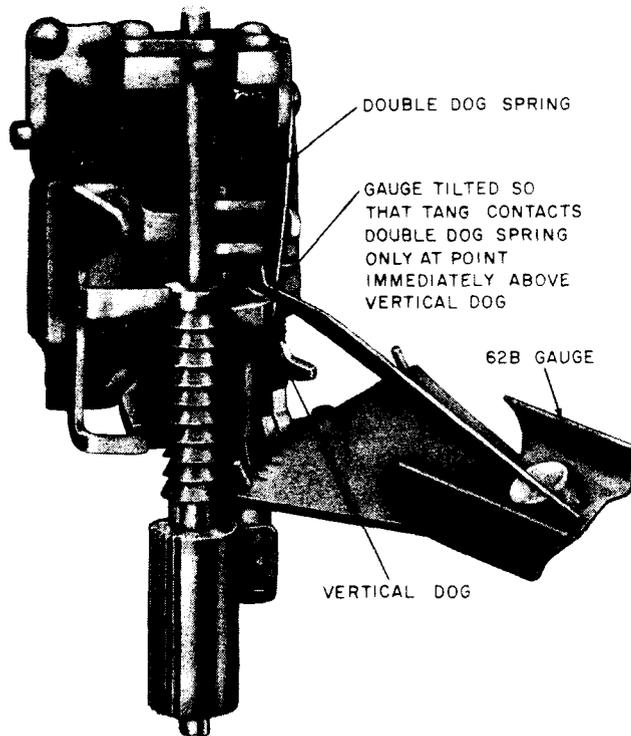

Fig. 26—Measurement of Double-Dog Spring Tension
**Note:** To check for this requirement, apply the gauge at an angle, as shown in Fig. 26, so only the heel of the tang contacts the spring just above the double dog.